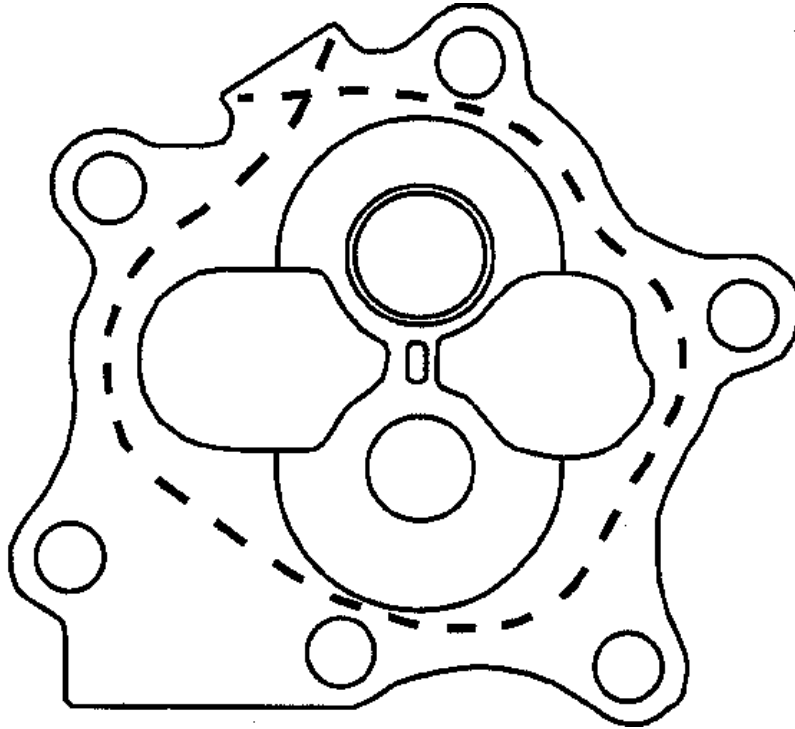

FIGURE 2.
1. Using clean engine oil, lubricate sleeve (6).
4. Using Aviation Permatex, P/N646942, lightly coat the parting surface of body (7). Allow the Permatex to set for a few minutes until slightly tacky. See figure 2.
5. Using Grade 3 Silk Thread, P/N 641543, apply a single line of thread over the Permatex surface of body (7). See Figure 2.
6. Insure that gear (12) is correctly positioned.
7. Carefully install body (7) onto starter adapter.
8. Install five sets of hardware (3) and (1). Do not install any hardware on the stud adjacent to the oil seal bore. This hardware and seal retainer (2) will be installed after seal (8) and sleeve (6) are installed. Torque nuts (1) to 180 - 220 inch pounds.
9. Install spacer (10) into body (7).
10. Install bearing (9) into body (7).